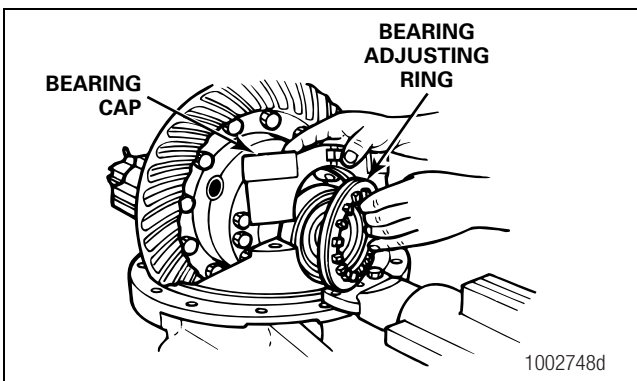

Figure 3.44
6. Remove the bearing caps, adjusting rings and bearing cups from the differential carrier. Figure 3.44.